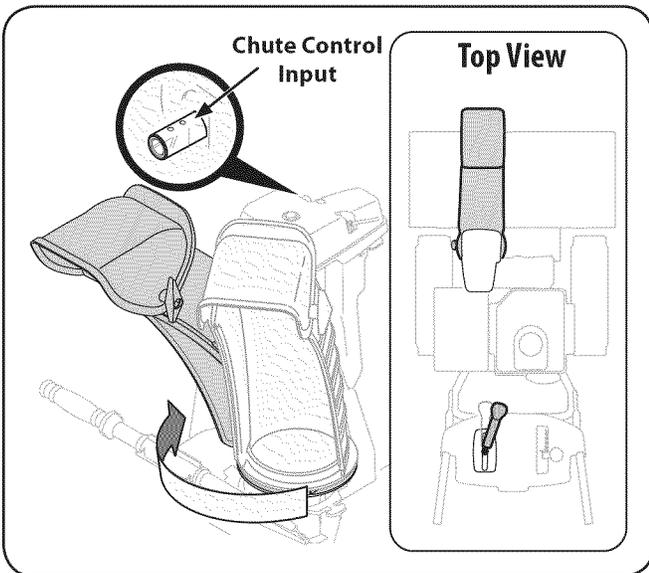

Figure 3-6
- Squeeze the trigger on the joystick and rotate the chute by hand to face forward. The holes in the chute control input will be facing up. See Fig. 3-6.
NOTE: The joystick will be angled slightly to the right at the one o'clock position. See "Top View" in Fig. 3-6.